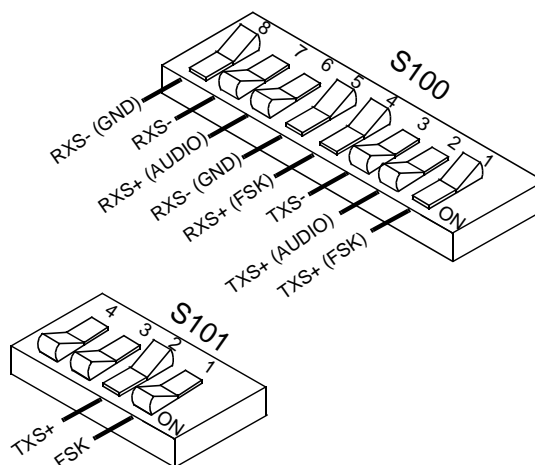

Figure 7-17 S100/S101 RS-232
1. Set MAC S100, Sections 2, 3, 6, 7 OFF; 1, 4, 5, 8 ON (see Figure 7-17).
2. Set MAC S101, Sections 1, 3, 4 OFF; 2 ON (see Figure 7-17).